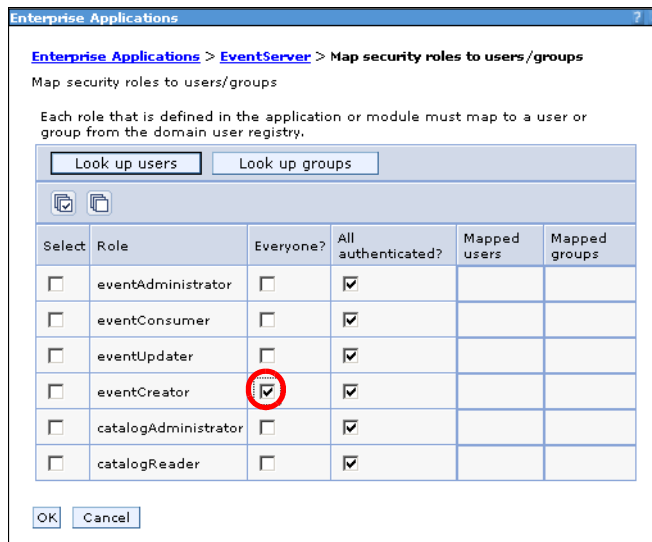

Figure 11-2 Specifying that everyone can create events
- ▶ Select *Everyone* for the eventCreator entry (Figure 11-2).